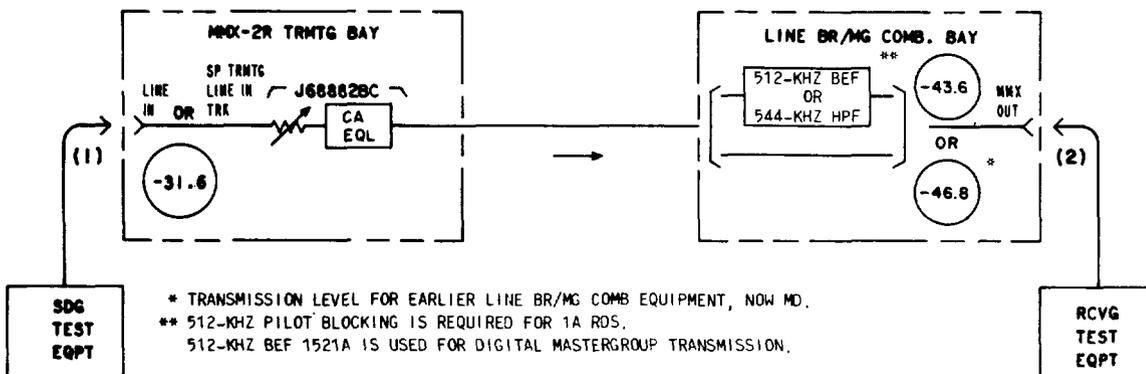

Fig. 5—Transmitting Regular or Spare Radio Trunk for Mastergroup Branching
| 4 | Connect the STE to the LINE IN or the SP TRMTG LINE IN TRK jack in the MMX-2R transmitting bay [patch (1), Fig. 5]. |
| 5 | Connect the RTE to the MMX OUT jack in the line branching/mastergroup combining bay [patch (2), Fig. 5]. |